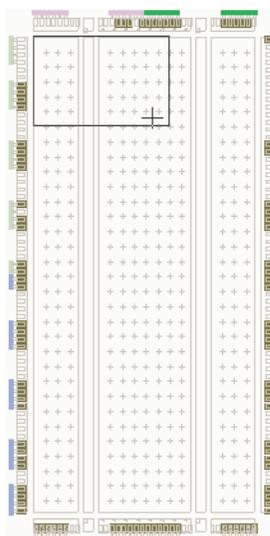

Figure 5: Drawing an Area Group
6. After clicking on the Assign Area Constraint Mode Icon, draw the Area Group in the Device Architecture window by clicking with the left mouse button and holding it down until the desired size is created (**Figure 5**).